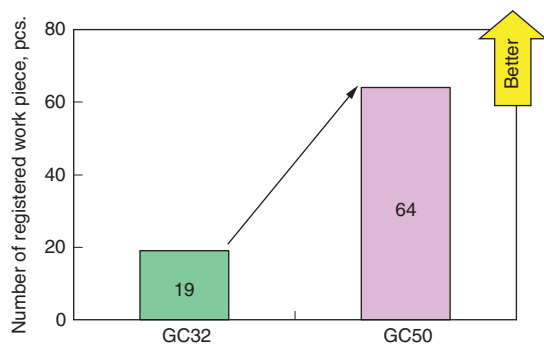

Fig. 1 Expansion of data memory capacity
- 3) The general purpose cylindrical grinders for low-volume-diverse production are required to store data for many different work pieces. The GC50 can now store data for up to 64 different work pieces (3 times that of the original GE series) and 64 × 30 processes (12 times that of the original GE series). This expanded data storage seeks to eliminate the troublesome task of data back-up and replacement (**Fig. 1**).